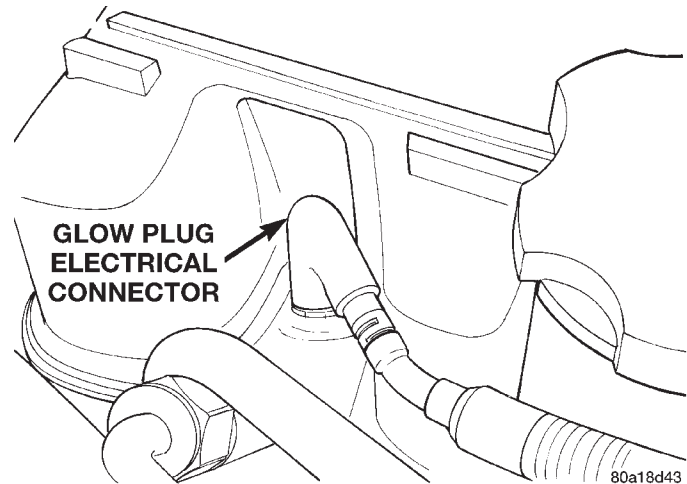

Fig. 28 Glow Plug Electrical Connector
- (2) Clean the area around the glow plug with compressed air before removal.
- (3) Disconnect electrical connector (Fig. 28) at glow plug.